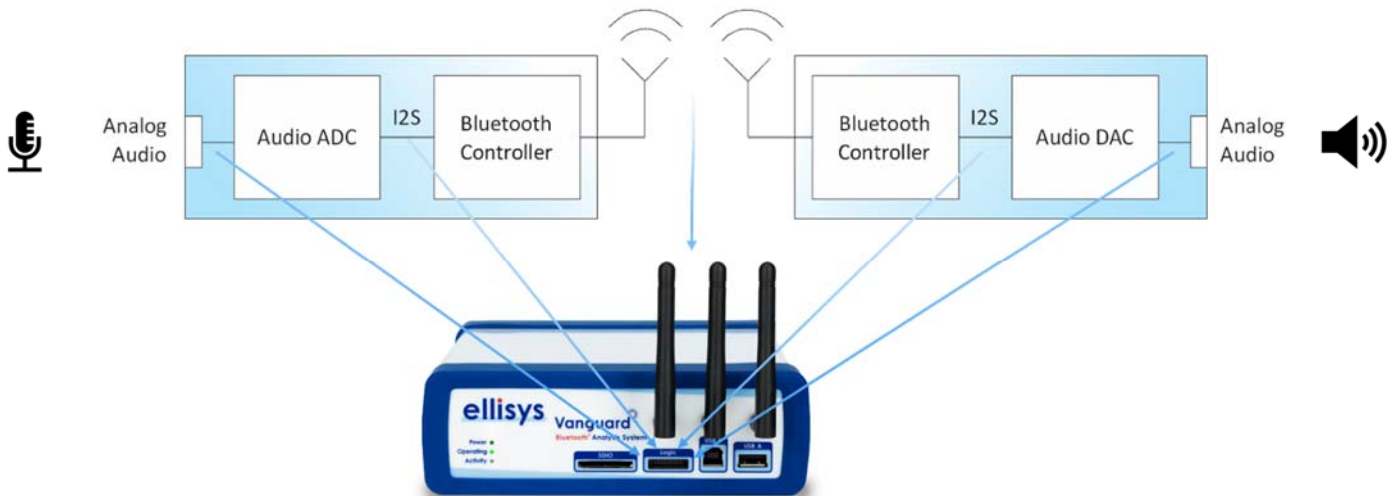

Figure 13 - Analyzer Setup to Capture Two Digital and Two Analog Audio Streams, and Over-the-Air Traffic
**With** the Audio Grabber, *analog* audio can be added to the analysis, providing latency measurements, including through ADC and DAC components. See Figure 13, below.